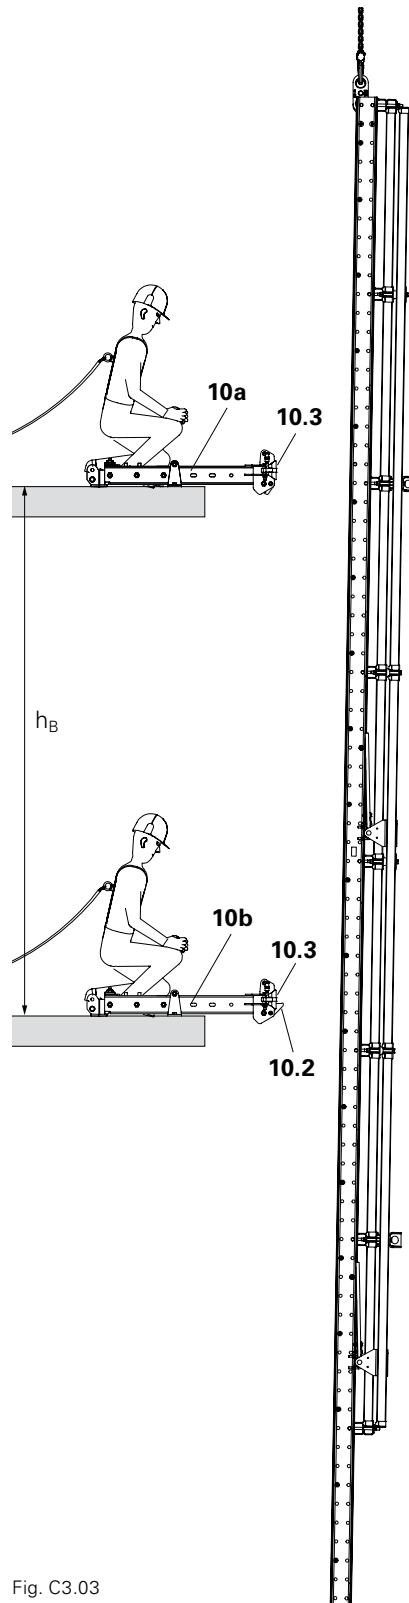

Fig. C3.03
5. Lock the climbing pawl (10.2) of the top Slab Shoe (10b), in order to prevent inadvertent locking into place, in the event $h_B = n \times 50 \text{ cm}$. See Section "Activating and Deactivating the Climbing Pawl" on Page 113. (Fig. C3.03)